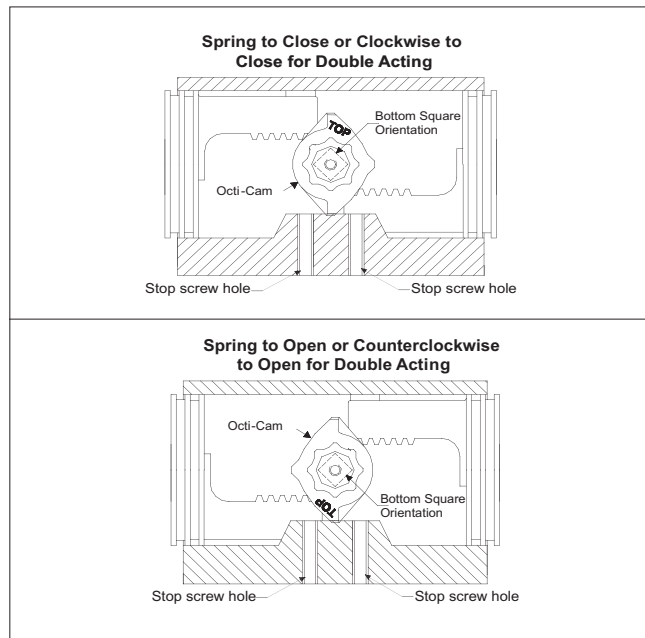

Figure 11. (Looking from above)
- D. Ensure that the octi-cam (1) is in the correct position with respect to the stop screw holes as shown by (Figure 11).
The Lock out feature can be rendered ineffective by a mis-aligned octi-cam (see Figure 11) which could cause damage to equipment or personal injury! Functional testing is recommended on initial installation of locking devices and after any service or repair to confirm the effectiveness of the Lock out feature.